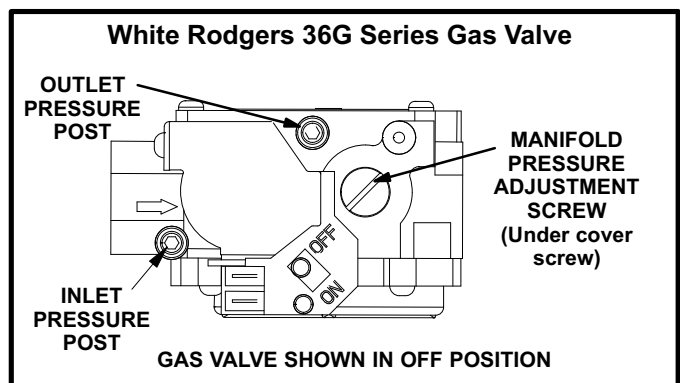

FIGURE 24
*White Rodgers 36G Gas Valve* - Move gas valve switch to **ON**. See figure 24.
*White Rodgers 36G Gas Valve* - Move gas valve switch to **OFF**. See figure 24.